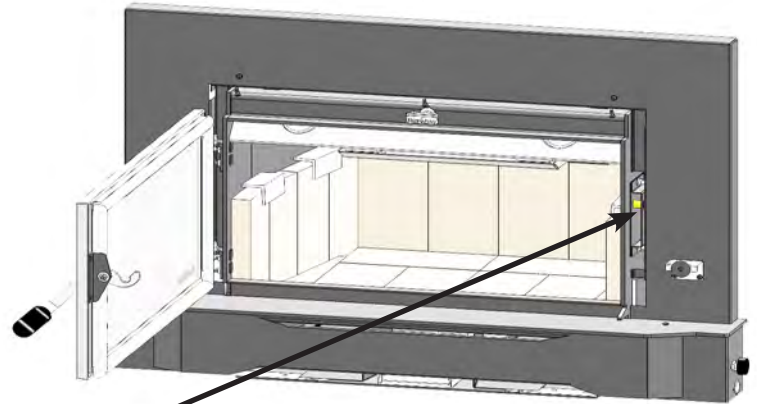

Fig. 22
3. To tighten the door tension use a 7/16" wrench to loosen the two nuts on the latch cover. Slide the latch cover towards the back of the appliance and tighten nuts. **(Fig. 22)** Repeat paper test (see "LOADING DOOR GASKET INSPECTION")